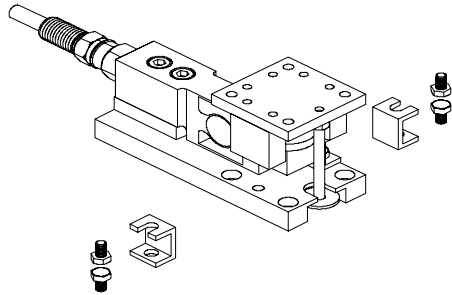

FIG. 4: REMOVING SHIPPING BRACKETS
- Step 2. Use a box end wrench to remove the fasteners that fasten the two shipping brackets to the load point. (See Fig. 4)